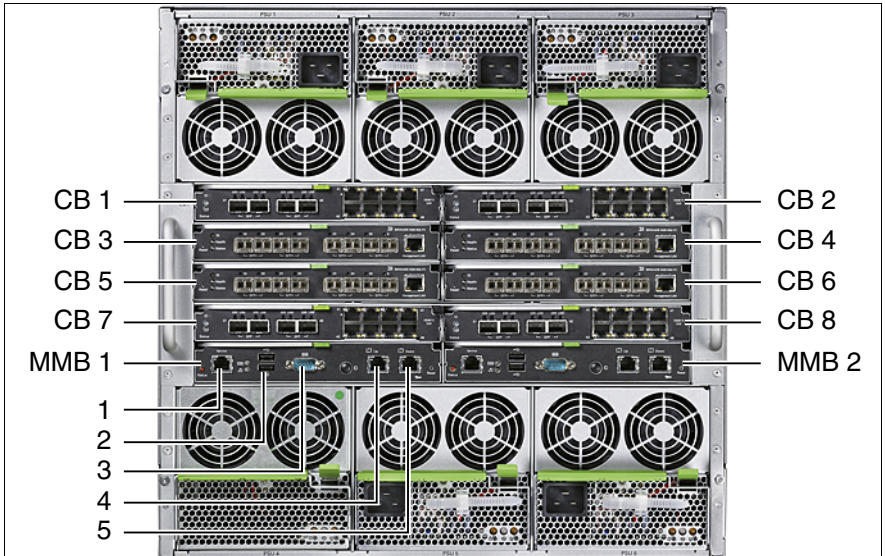

Figure 8: Ports for external devices
The service LAN port (pos. 1 in figure 8 on page 51) and the LAN ports for blade server management (pos. 4 and 5 in figure 8 on page 51) must be in different LAN subnetworks.